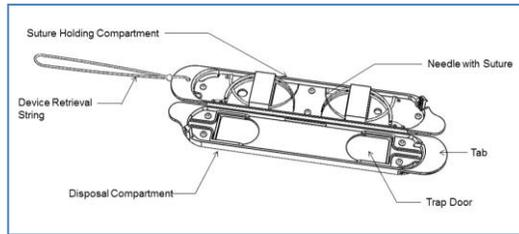

Figure 3 - View of StitchKit[®] Device when it is open
- 4.2. Insert device through the trocar (Figure 3) and transfer it to the surgeon-controlled robotic graspers. Use caution while passing the device via the port to ensure appropriate placement of the device and avoid contact with adjacent organs. Take care to ensure that the canister does not get opened accidentally and that none of the contents spill out.